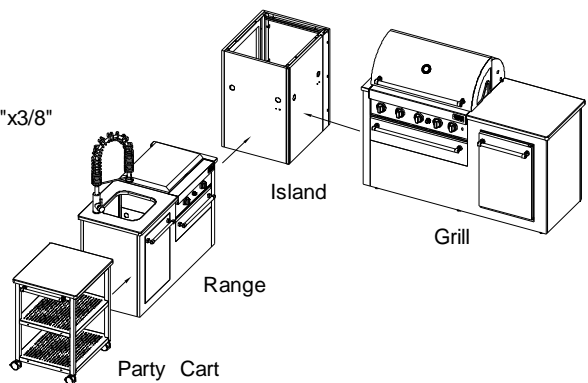

Fig. 4
- Align the 4 individual modules closely as shown in Figure 4 then proceed to Step 3 to attach the Regulator with Hose.